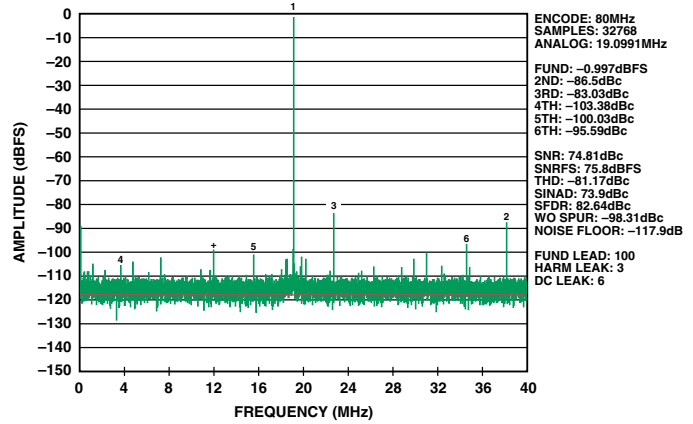
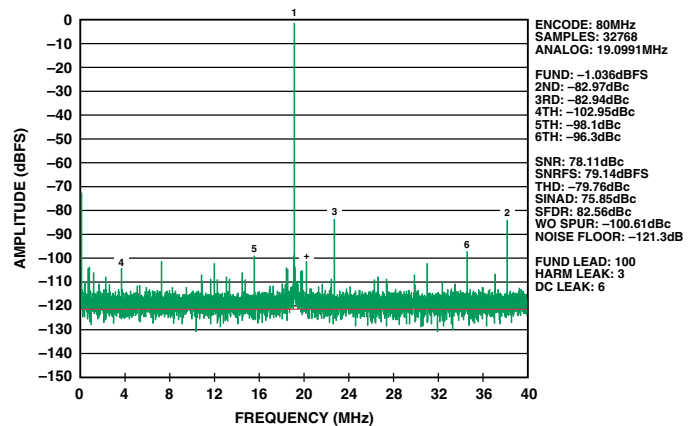
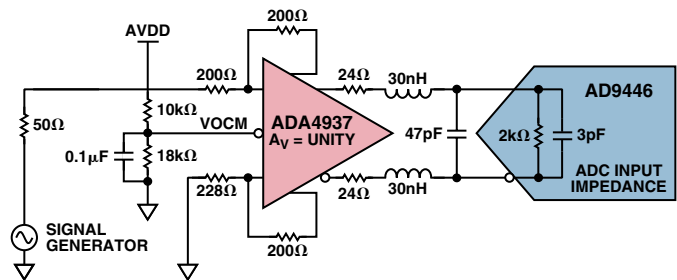

Figure 1. ADA4937 amplifier driving an AD9446-80 ADC at 80 MSPS without a noise filter.
Figure 2a. Driving an AD9446-80 with a 100-MHz noise filter.
Figure 2b. Schematic diagram of ADA4937 amplifier driving an AD9446-80 ADC at 80 MSPS with a 2-pole noise filter.
A. A typical amplifier that might be considered, the ADA4937,¹ for example, when configured for $G = 1$, has an output noise spectral density of $6 \text{ nV}/\sqrt{\text{Hz}}$ at high frequencies, compared to the $10\text{-nV}/\sqrt{\text{Hz}}$ input noise spectral density of the 80-MSPS AD9446-80² ADC. The problem here is that the amplifier has a noise bandwidth equivalent to the full bandwidth of the ADC, around 500 MHz, while the ADC noise is folded to one Nyquist zone (40 MHz). Without a filter, the integrated noise then becomes $155 \text{ }\mu\text{V rms}$ for the amplifier and $90 \text{ }\mu\text{V rms}$ for the ADC. Theoretically, this degrades the overall system SNR (signal-to-noise ratio) by 6 dB. To confirm this experimentally, the measured SNR, with the ADA4937 driving the AD9446-80, is 76 dBFS, and the noise floor is -118 dB (Figure 1). With a transformer drive, the SNR is 82 dBFS. The driver amplifier has thus degraded the SNR by 6 dB.
To make better use of the ADC’s SNR, a filter is inserted between the amplifier and ADC. With a 100-MHz 2-pole filter, the amplifier’s integrated noise becomes $71 \text{ }\mu\text{V rms}$, degrading the ADC’s SNR by only 3 dB. Use of the 2-pole filter improves the SNR performance of the Figure 1 circuit to 79 dBFS, with a noise floor of -121 dB , as shown in Figure 2a. The 2-pole filter is built with $24\text{-}\Omega$ resistors and 30-nH inductors in series with each of the amplifier’s outputs, and a 47-pF differentially connected capacitor (Figure 2b).